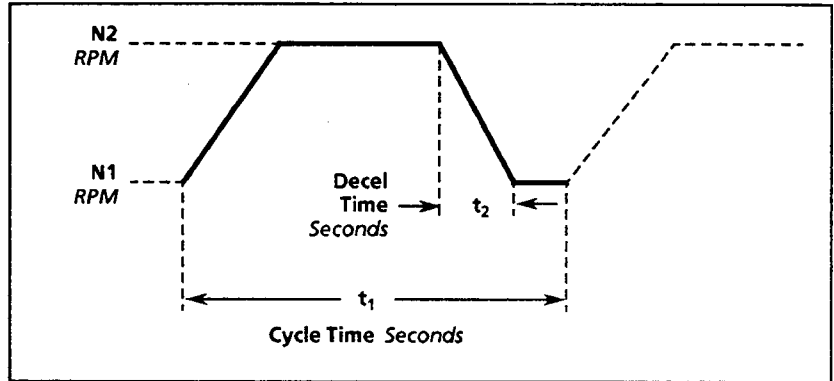

Figure 7 – Speed Profile
a) Determine the speed profile and times for the application. See Figure 7.